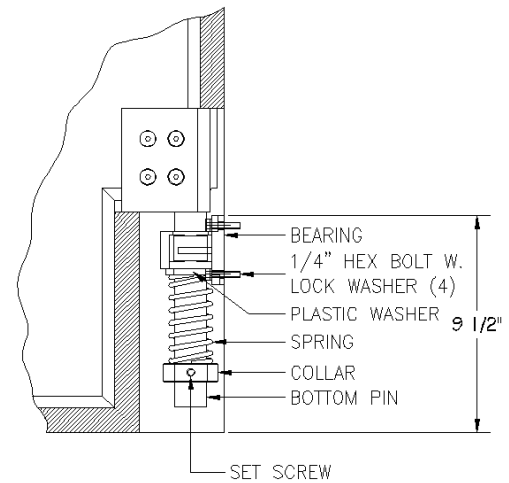

FIG. 3
- Position top of bearing 9-1/2" from bottom of jamb (Figure 3).
b. Place bottom hinge hardware onto bottom panel shaft in the following order (Figure 3):
- Bottom Shaft (Figure 3), mounted in the bottom bearing.